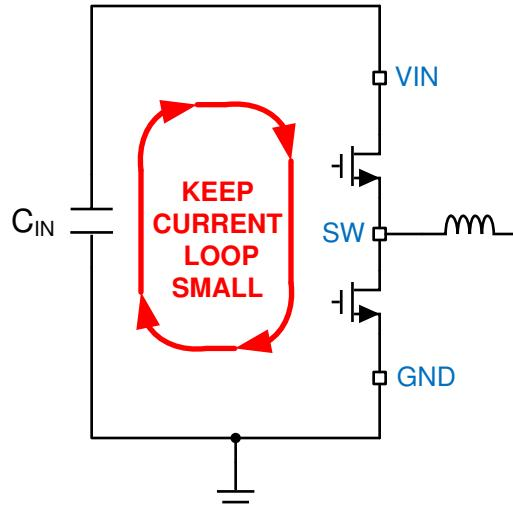
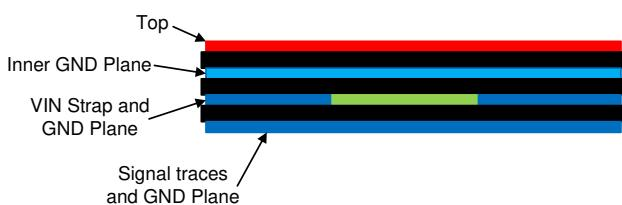

Figure 10-1. Current Loops with Fast Edges
Figure 10-3. Example Layout for VQFN Package
The PCB layout of any DC/DC converter is critical to the optimal performance of the design. Bad PCB layout can disrupt the operation of an otherwise good schematic design. Even if the converter regulates correctly, bad PCB layout can mean the difference between a robust design and one that cannot be mass produced. Furthermore, the EMI performance of the regulator is dependent on the PCB layout, to a great extent. In a buck converter, the most critical PCB feature is the loop formed by the input capacitor or input capacitors, and power ground, as shown in Figure 10-1. This loop carries large transient currents that can cause large transient voltages when reacting with the trace inductance. These unwanted transient voltages will disrupt the proper operation of the converter. Because of this, the traces in this loop must be wide and short, and the loop area as small as possible to reduce the parasitic inductance. Figure 10-2 and Figure 10-3 show recommended layouts for the critical components of the LMR33630.
- 1. Place the input capacitor or capacitors as close as possible to the VIN and GND terminals.** VIN and GND pins are adjacent, simplifying the input capacitor placement. With the VQFN package there are two VIN/PGND pairs on either side of the package. This provides for a symmetrical layout and helps minimize switching noise and EMI generation. A wide VIN plane must be used on a lower layer to connect both of the VIN pairs together to the input supply; see Figure 10-3.